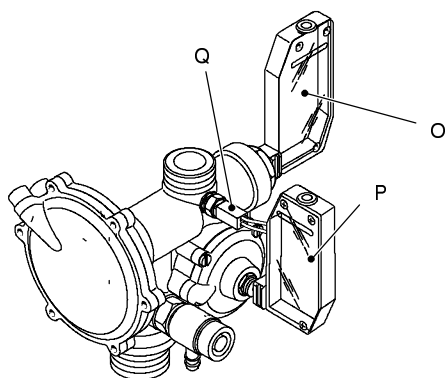

fig. 33
- 5 Remove the forks that hold the d.h.w. pressure switch *O* and the main circuit flow switch *P* and separate the switches from the valve (fig. 33).